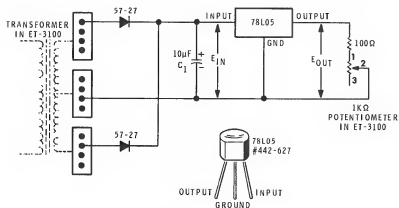

Figure 4-82
- With the ET-3100 Experimenter turned off, construct the circuit shown in Figure 4-82. Set the 1 k Ω potentiometer to maximum (fully clockwise).